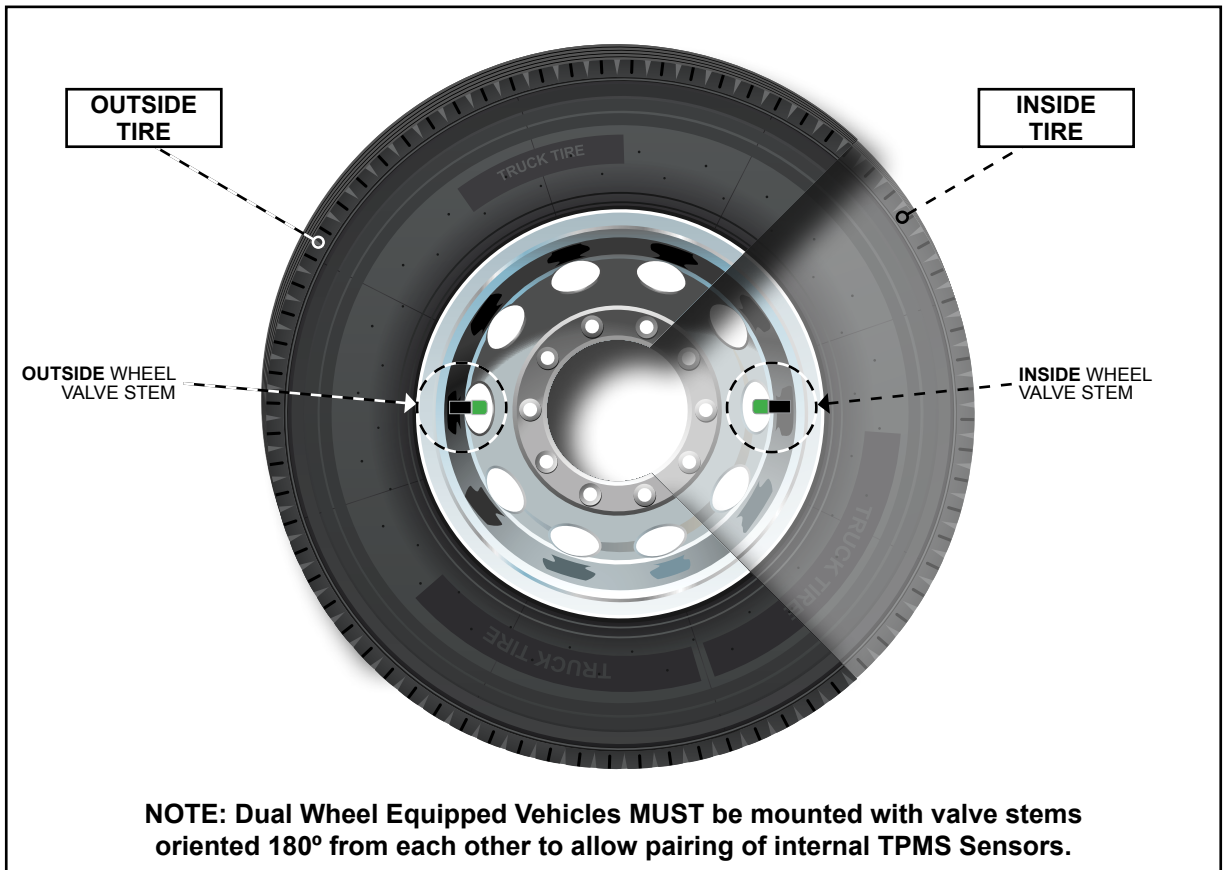

Figure 7: 180° valve stem orientation for dual wheel vehicles.
1. Please review the following instructions to ensure proper orientation of internal TPMS Sensors using the 180° valve stem orientation method (See Figure 7):